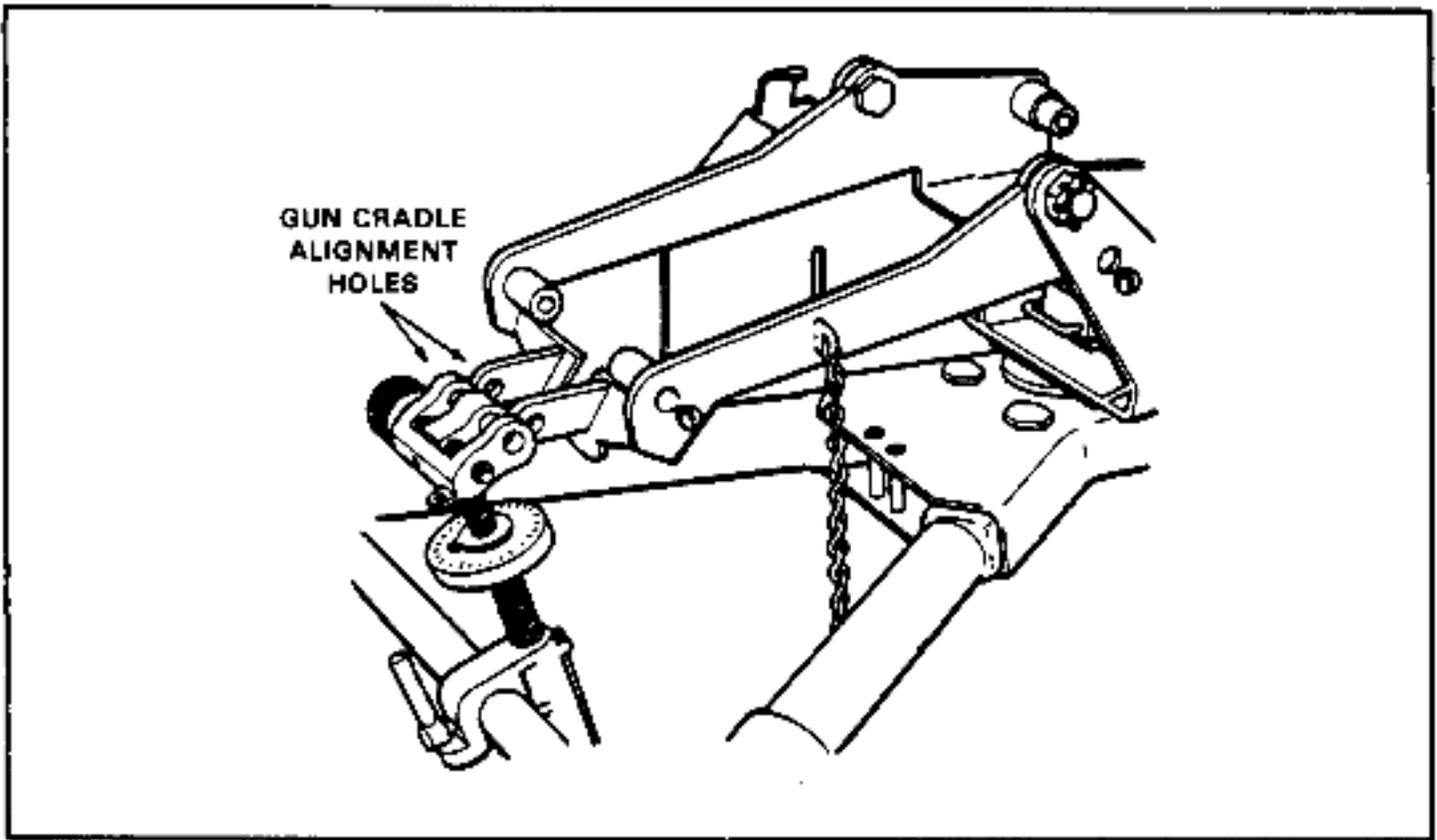

Figure 3-6. Alignment of gun cradle to T&E.
(4) Align the holes in the upper elevating screw yoke of the T&E mechanism with the rear holes in the gun cradle (Figure 3-6).